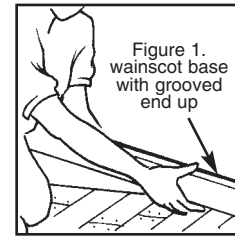

Figure 1. wainscot base with grooved end up
- Nail base trim to wall with grooved side up using 1" finishing nails. (See Figure 1.)